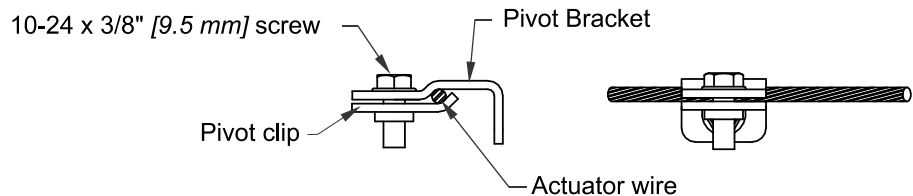

Figure 70. Clamping to actuator wire
- Using the first pan away from the actuator, push the inner cone to the open position. Place the actuator wire between the pivot bracket and pivot clip then tighten the 10-24 screw, see figure 70.